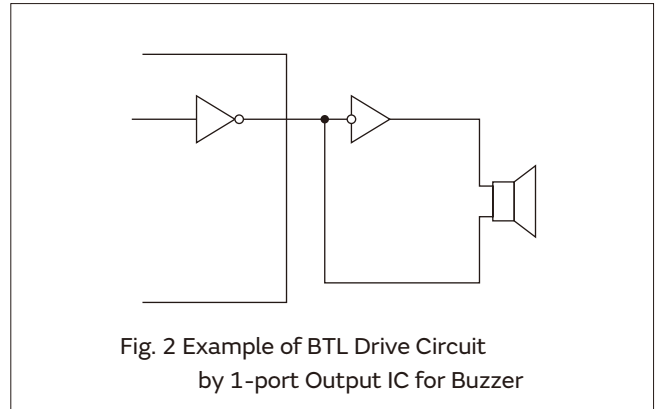

Fig. 2 Example of BTL Drive Circuit by 1-port Output IC for Buzzer
- (2) In a case that is driven by IC directly like as Fig. 2, input voltage of Piezoelectric sound components should be twice as high because of the BTL (Bridge Tied Load) drive circuit, which includes an inverter.
When the piezoelectric diaphragm oscillates freely in air, the node does not move as shown in Fig. 1. With this point held with a measuring terminal, the resonant frequency (f_0) and resonant impedance (R_0) are measured in the constant-current circuit as shown in Fig. 2.